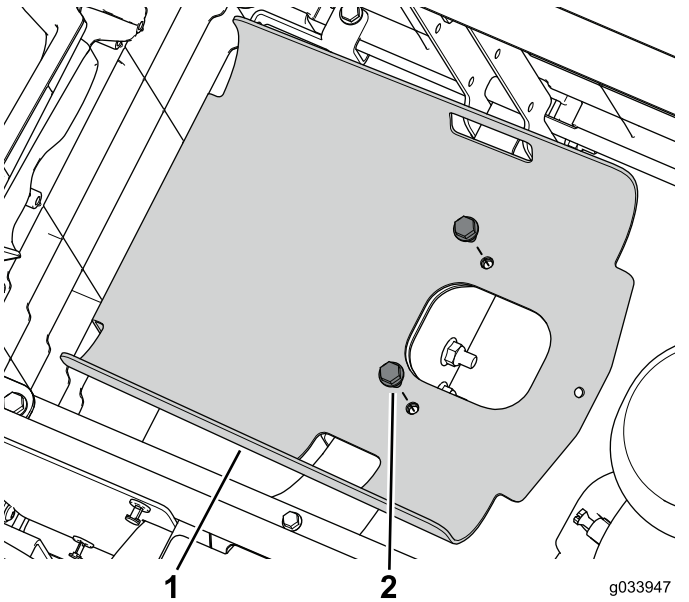

Figure 5
5. Remove the 2 flange-head bolts securing the tank tray to the frame (Figure 5).
5. Secure the tank tray to the frame using the previously removed 2 flange-head bolts (Figure 5).